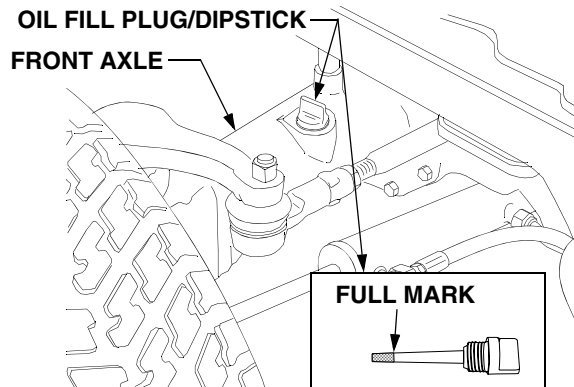
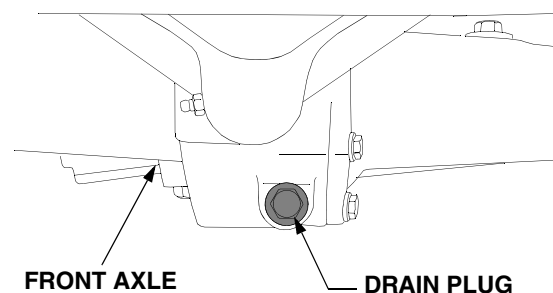

Figure 46
Figure 48
- The oil fill plug/dipstick is located on the *left* side of the axle housing. See Figure 46.
- Clean the area around the oil fill plug/dipstick to prevent debris from entering the axle housing. See Figure 46.
- Withdraw the dipstick and wipe it clean, then reinsert and screw in all the way. Unscrew and withdraw again to read the oil level. Always keep the oil level between the bottom and the full mark of the dipstick (See Figure 46).
- To prevent debris from entering the front axle housing, clean the area around the oil fill plug/dipstick and the axle drain plug located at the center front of the axle. Refer to Figure 46 and Figure 48.
- Remove the oil fill plug/dipstick to help vent the axle, then remove the drain plug and allow the oil to drain into the container. Reinstall the drain plug after draining the oil. See Figure 48.